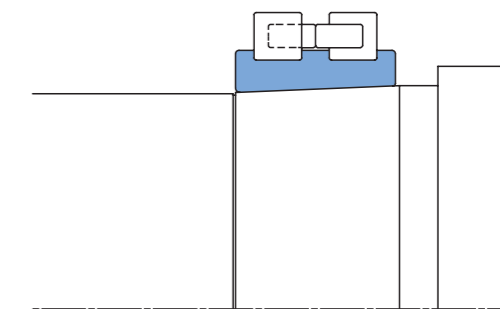

Figure 9.8 Inner Sub-unit Temporary Tightening
- Lightly place the inner sub-unit onto the shaft taper (Figure 9.8).